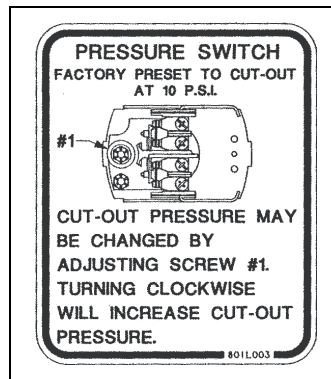

Figure 7A
3. The air pressure limit switch should always be in the “ON” position during routine operation to provide protection to the blower against overload conditions. The air pressure limit is set at the factory to shut down the system at 10 p.s.i. If adjustment is needed, rotate the adjusting screw counterclockwise to lower the pressure limit, or clockwise to increase the pressure limit. A one-half (1/2) turn of the screw will change the pressure limit one (1) p.s.i.
Note: If the pressure limit is set below five (5) p.s.i., the switch may not reset and allow the air transfer to run. (See Figure 7A).